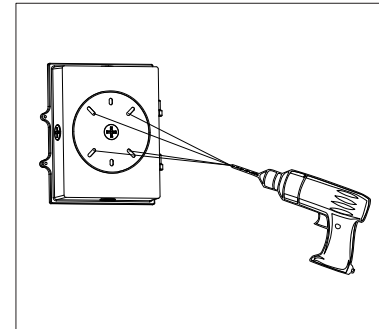
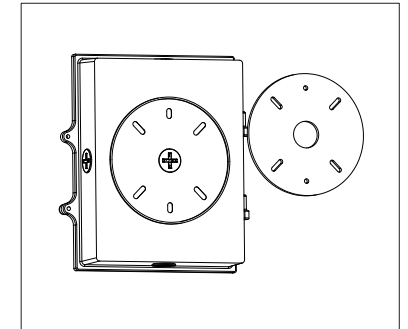

Figure 5
Figure 6
STEP 3: Drill an installation hole at the bottom of the light, paste the EVA mat (Figure 5 & Figure 6)